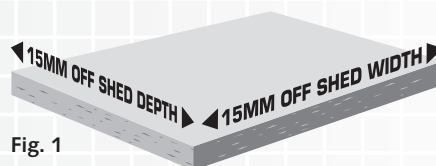
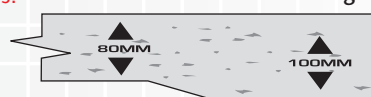

Fig. 1
Fig. 2
Step 2 - Ensure that the base substrate is compacted firmly. We suggest that the slab should be 80mm thick in the middle and 100mm thick around the edges (Fig 2).
Step 3 - Lay boxing to the required size. The raised slab size should be 15mm smaller than the overall base size of the shed and at least 30mm above the ground line. See Fig. 1 and Raised Slab Specification table for correct measurement.
The key-lock handle (Fig. 1), features a stainless steel hook that is secured with a strong angle brace (Fig 2) to help prevent the door from being forced open. Upon closing, two brackets lock the back edge of the door (Fig. 3).
Available in four blade louvre (Fig. 3), or fixed pane options (Fig. 2), window kits include timber framing (Fig. 1), hardware and even the pre-cut glass. *Please note that windows cannot be placed behind doors in the open position and are available on the Kiwi range only.*